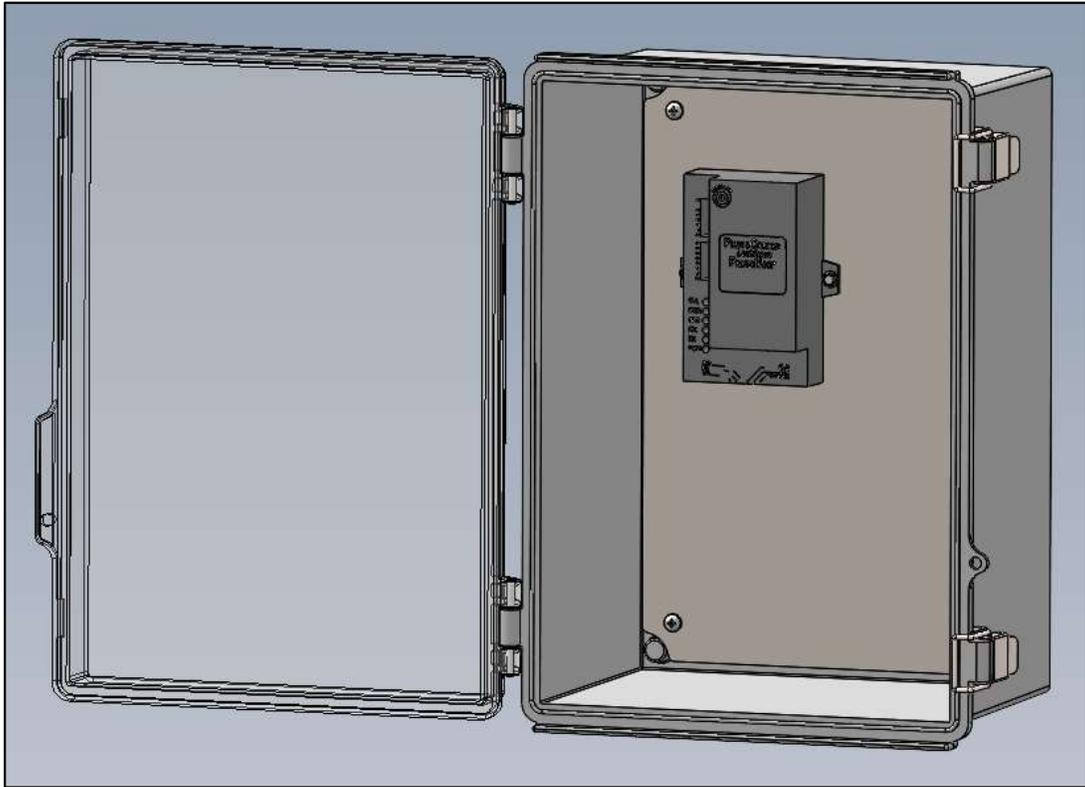

Figure 11-3: ProtoNode Kit with Plastic Enclosure
- Includes the ProtoNode mounted within a 14"x10"x7" plastic enclosure (see Figure 11-3), as well as mounting brackets to mount the enclosure to a wall.